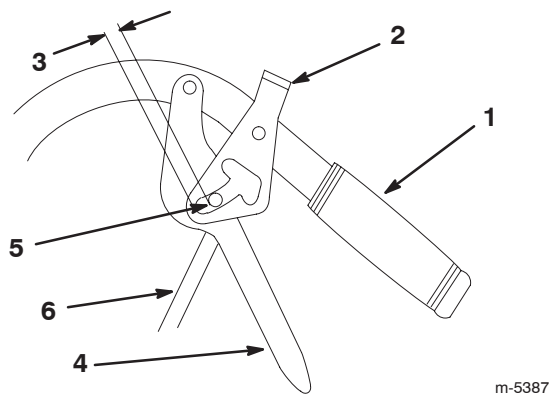

Figure 8
5. Adjust the control rod length by threading the rod in or out of the rod fitting until there is a 3/16 to 1/4 inch (5 to 6 mm) clearance between the control rod and the bottom of the neutral/parking brake lock (Fig. 8).
8. Adjust the control rod length by repeating steps 3 and 4 (Fig. 8).